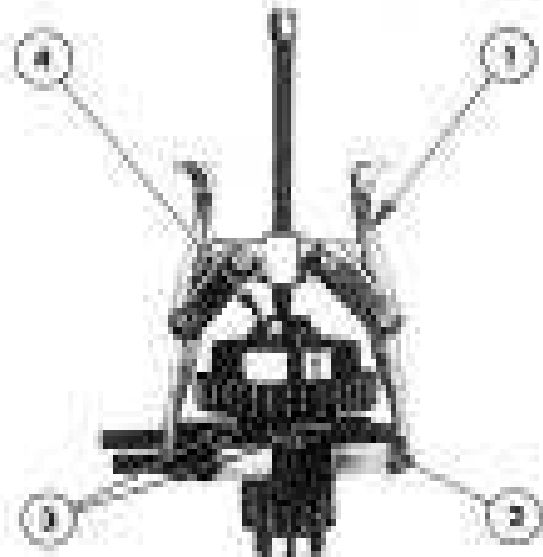
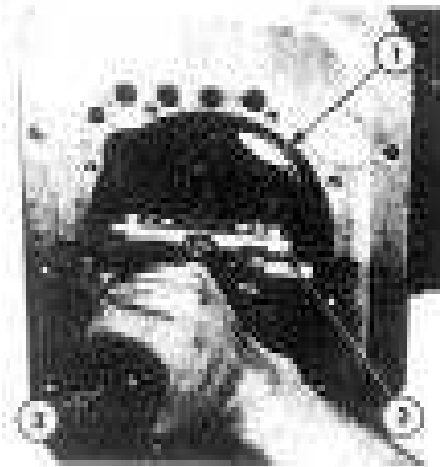

Figure 38
Figure 39
9. To remove the secondary countershaft front bearing, insert two steel rods, 0.18 in. (4.5 mm) diameter and 2.0 in. (50 mm) long through the two holes in the larger gear, Figure 38. Then use Puller, Tool No. EF-Q800, Pulling Attachment, Tool No. EF-0501 and a suitable Step Plate, Tool No. 6308 to remove the front bearing, Figure 39.
2. If necessary, use Puller, Tool No. EF-OaOO Pulling Attachment, Tool No. EF-0501 or EF-0600 and suitable Shaft Protector, Tool No. 625A to remove the mainshaft rear bearing, Figure 39.